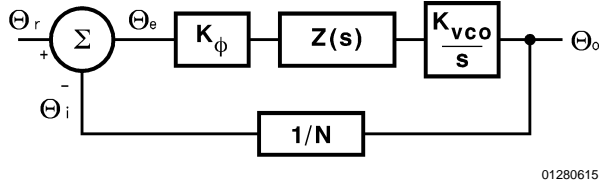
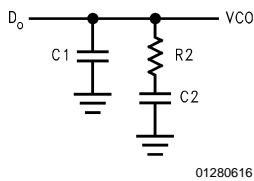

FIGURE 2. PLL Linear Model
FIGURE 3. Passive Loop Filter
A linear control system model of the phase feedback for a PLL in the locked state is shown in *Figure 2*. The open loop gain is the product of the phase comparator gain (K_ϕ), the VCO gain ($K_{VCO}s$), and the loop filter gain $Z(s)$ divided by the gain of the feedback counter modulus (N). The passive loop filter configuration used is displayed in *Figure 3*, while the complex impedance of the filter is given in *Equation (1)*.